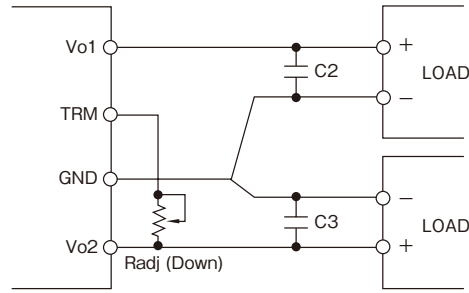

Fig. 3-5: Connection for output voltage trim down
- b) Vo2 terminal: to adjust to lower output voltage; Fig.3-5.